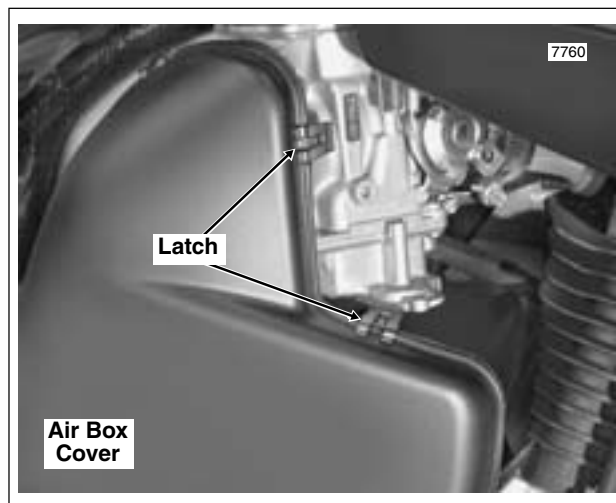

Figure 4-10. Release Air Box Cover Latches
1. Release five latches around perimeter of air box cover. See Figure 4-10.